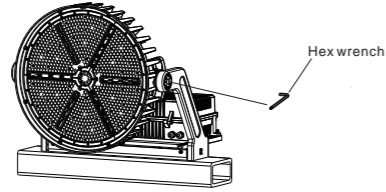

Figure 9
4. Use hex wrench to loosen the adjustment screw used to adjust the angle (Figure 9);